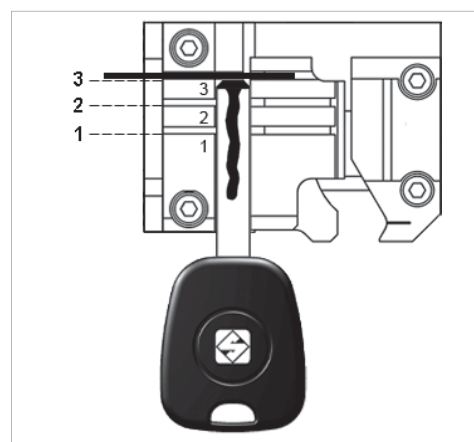

Fig. 41
- 1-2-3: for keys with tip stop (Fig. 41)